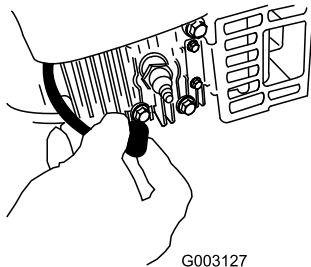

Figure 31
- Disconnect the spark plug wire from the spark plug (Figure 31) before performing any maintenance procedure.